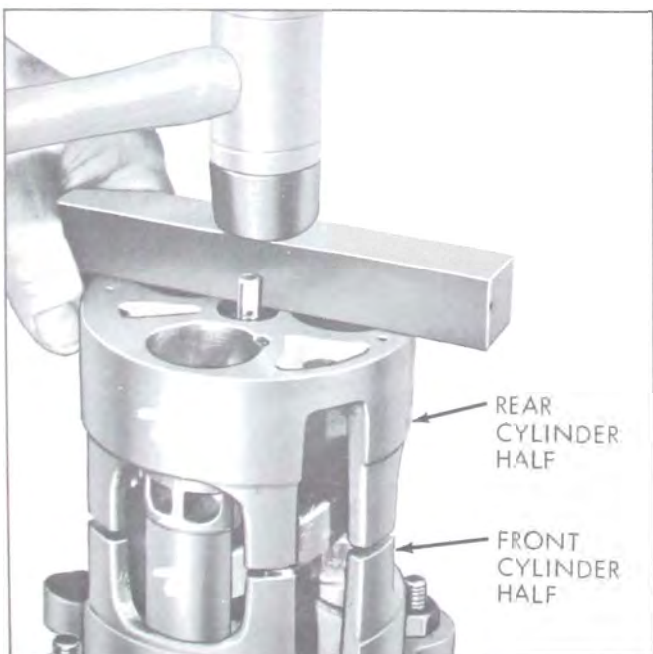

Figure 11-71—Assembling Rear Cylinder Half
11. Align rear cylinder half casting with bores, suction passage, discharge crossover holes, dowel pins, etc. Tap into place, using a wood block and mallet. See Figure 11-71.